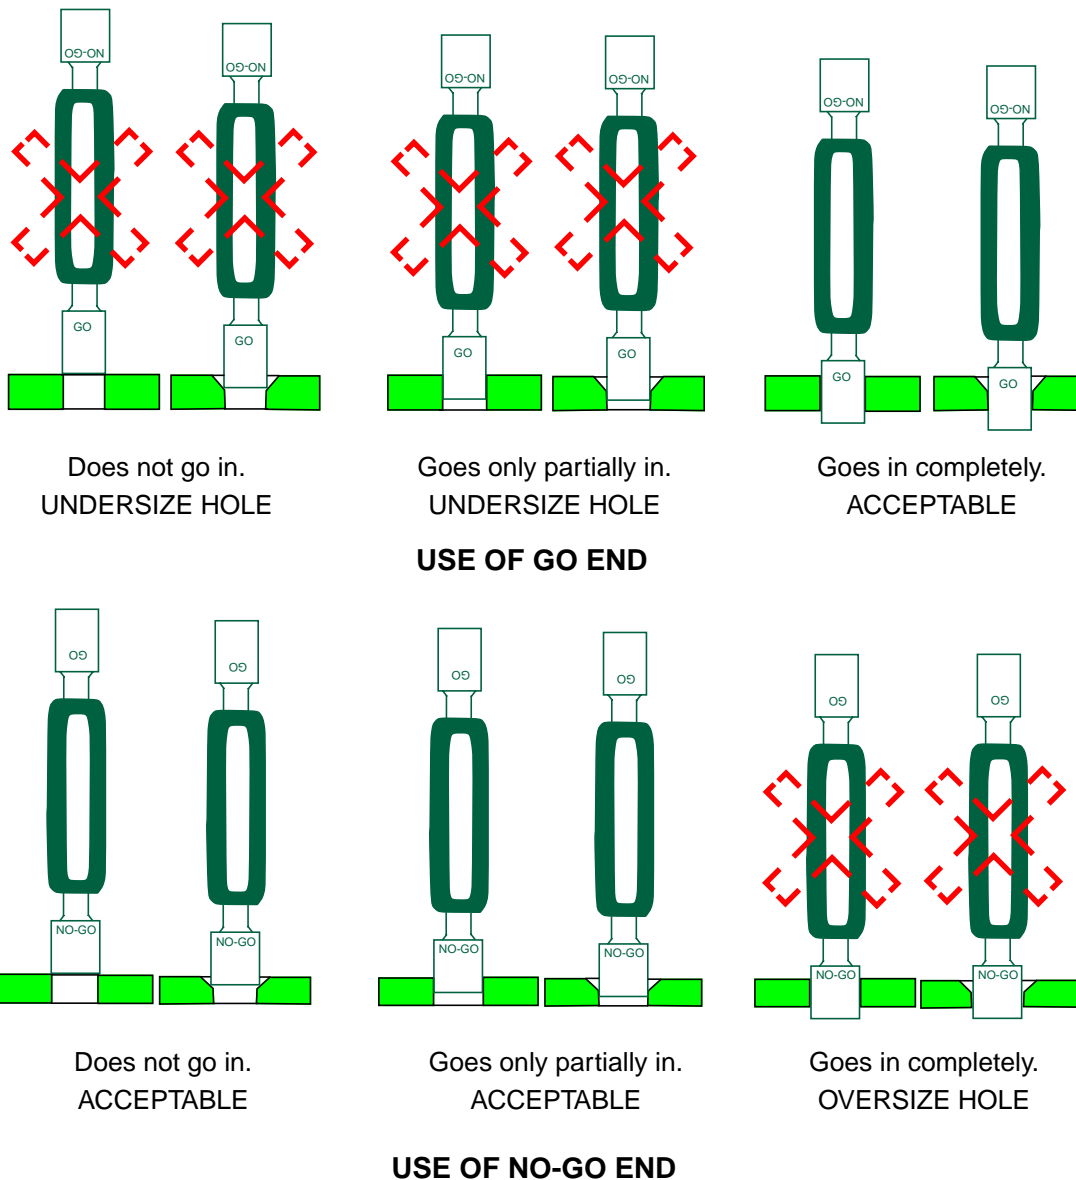

Figure 4 - Use of Go/No-Go Gauges
- 5.3.1 Check selected fastener holes for conformance to the requirements of Table 1 using the applicable go/no-go gauge as follows (see Figure 4):